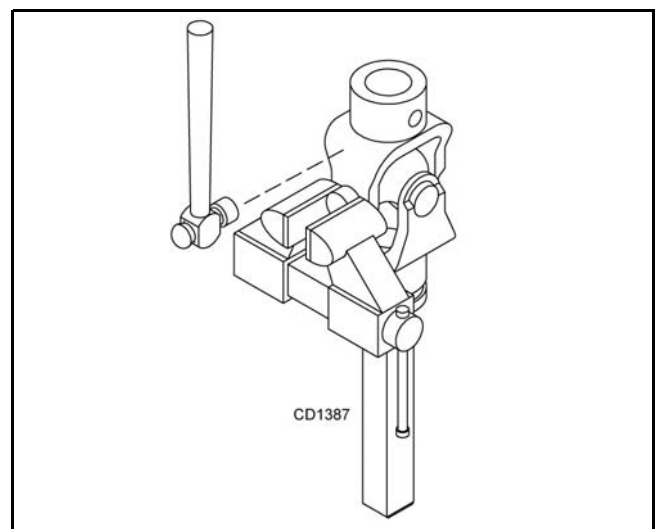

Figure 23.
3. Clamp cup in vise as shown in Figure 23 and tap on yoke to completely remove cup from yoke. Repeat Step 2 and Step 3 for opposite cup.